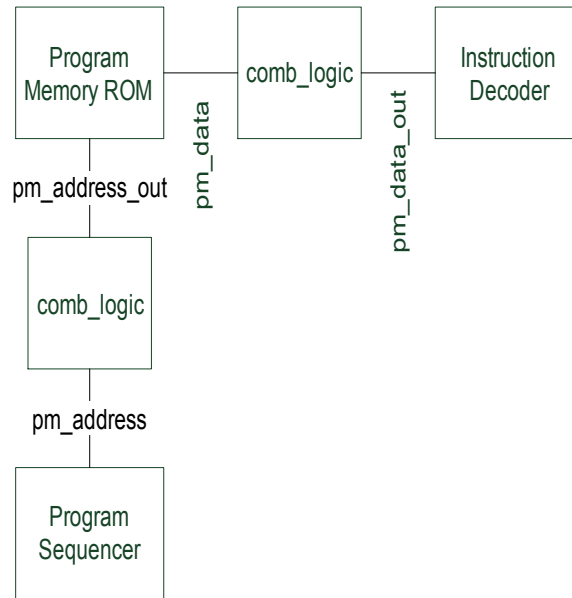

Figure 1: Modified microprocessor
3. Create a new verilog module called comb_logic.v. Create a circuit that generates a large series of combination logic (something that has a measurable delay). See Figure 1 for implementation.
4. Modify the top level of your microprocessor by creating two instances of the "comb_logic" module and connect them as shown in Figure 1.